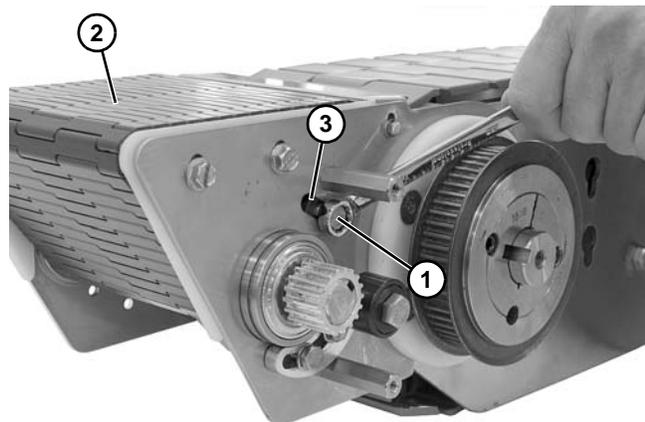

Figure 60
4. Loosen hex head screw (**Figure 60, item 1**) on both sides to loosen tension on chain (**Figure 60, item 2**).
5. Slide assembly within slot (**Figure 60, item 3**) to remove tension on chain.